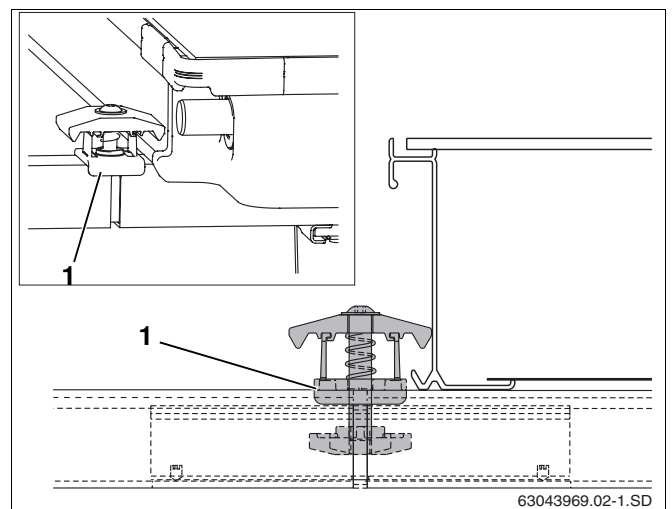

Fig. 47 Fitting a double-sided collector clamp
- Insert the double-sided collector clamp, nut first, into the opening made by the profile rail and plug connector so that the plastic spacer (Fig. 47, **Item 1**) surrounds the profile rail.